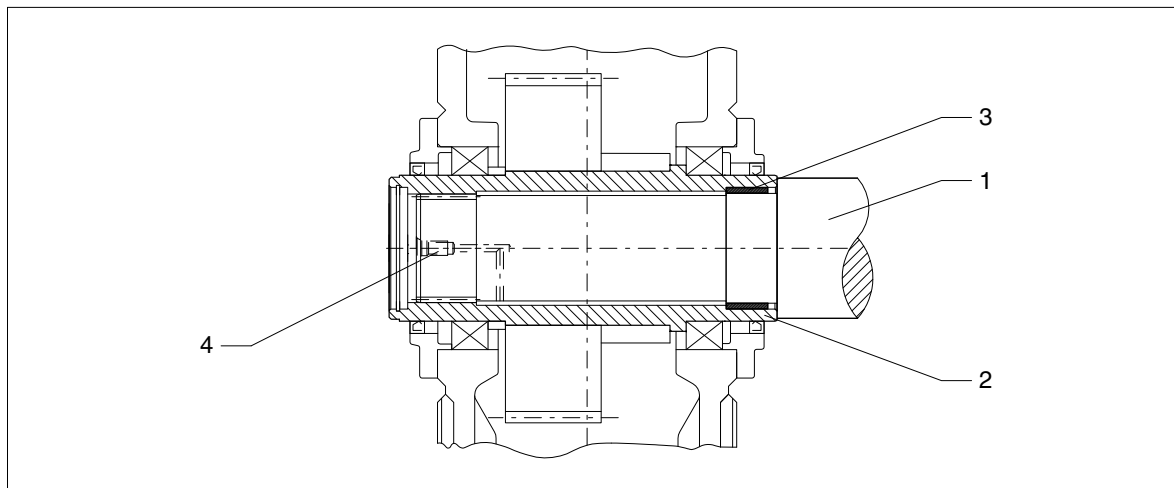

Fig. 46: Hollow shaft with internal spline, preparation
To facilitate demounting (see also item 6.4.3.), we recommend providing a connection for pressure oil on the end of the driven machine shaft. For this a hole must be drilled through to the hollow shaft bore (see fig. 46). This connection may also be used for supplying rust-releasing agent.